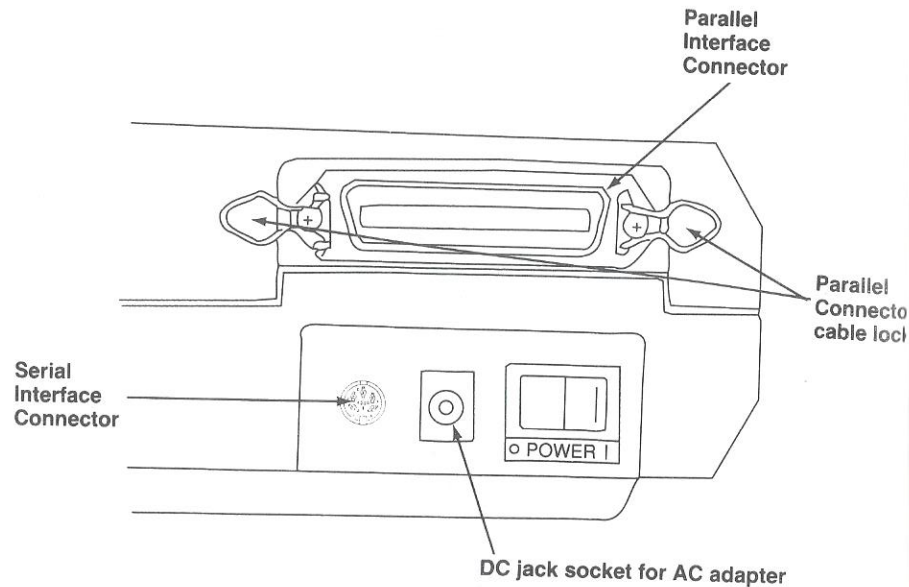

Figure 2-12. MPS 1270 Printer Connectors
The MPS 1270 is connected to an AC power source via an AC adapter and to a computer via a serial or parallel cable attached to the appropriate interface connector as shown in Figure 2-12.
4. If you are using a parallel cable, attach the connector and lock it into place with the locks on the left and right sides (Figure 2-12).